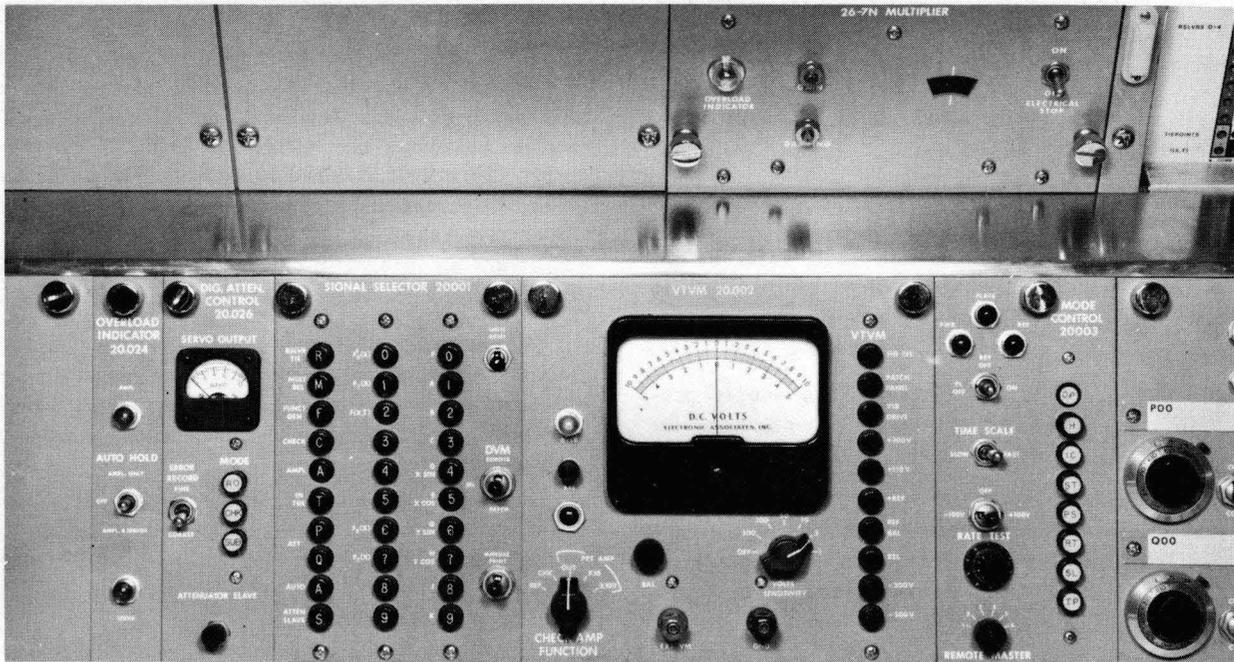

Figure 8. Control Panels.
e. Monitoring. (See fig. 8 and 8a)